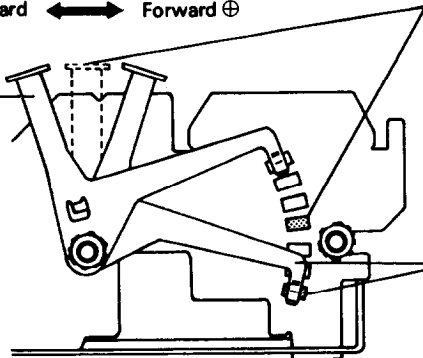

Fig. 18 Gap Adjustment
- (1) Move the head adjusting lever (located on the left frame of the Printer) forward or backward to adjust the gap between the head nose and the platen. (See Fig. 18.)
- (3) Should printed characters become faint due to the use of the printer for an extended period, move the head adjusting lever backward (in the  direction) by one step. (See Fig. 18.)
- (4) When a set of carbon paper sheets is used, be sure that no characters are printed within the area two lines each above and below the perforation.